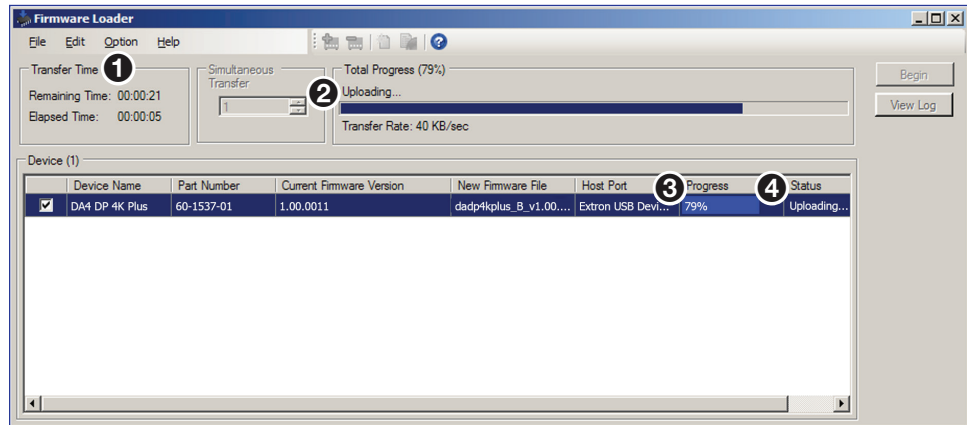

Figure 25. Firmware Upload in Progress
- The **Transfer Time** section (see figure 25, **1**) shows the remaining and elapsed time for the update.